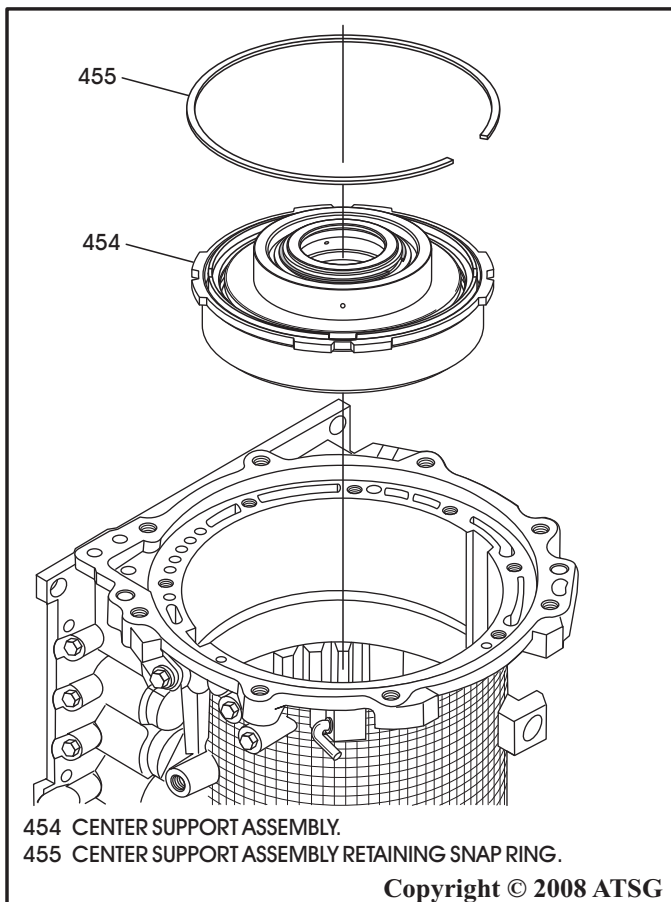

Figure 188
16. Install the completed center support assembly, as shown in Figure 188, and install snap ring selected in step 15.